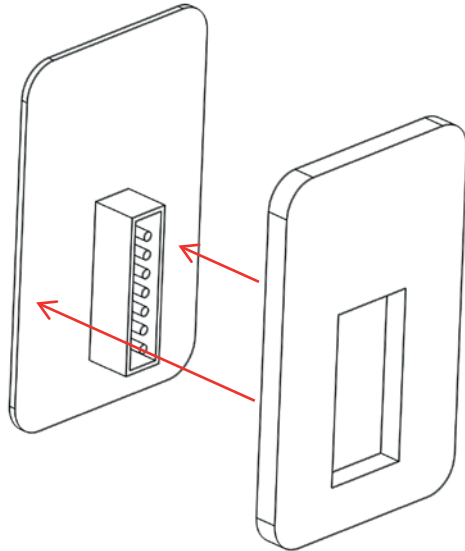

Figure 38: Press the sticky side of the foam onto the back of the mode pad.
4. Peel backing paper from one side of the double-sided foam. Press the sticky side of the foam onto the back of the mode pad (Figure 38).